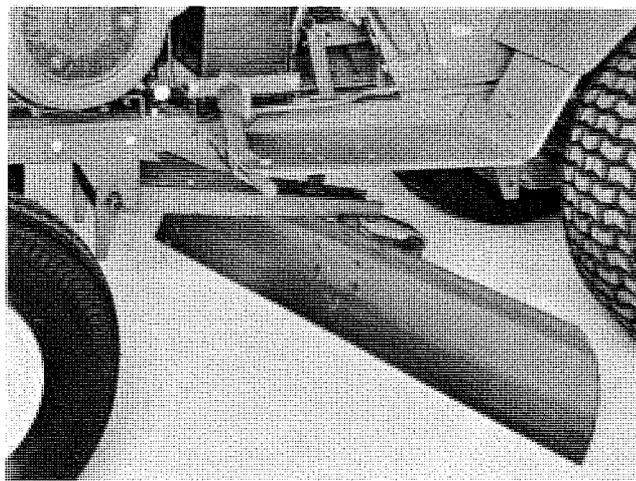

FIGURE 1
2. Place the frame cross shaft into the hitch grooves and close latch. See Figure 1.